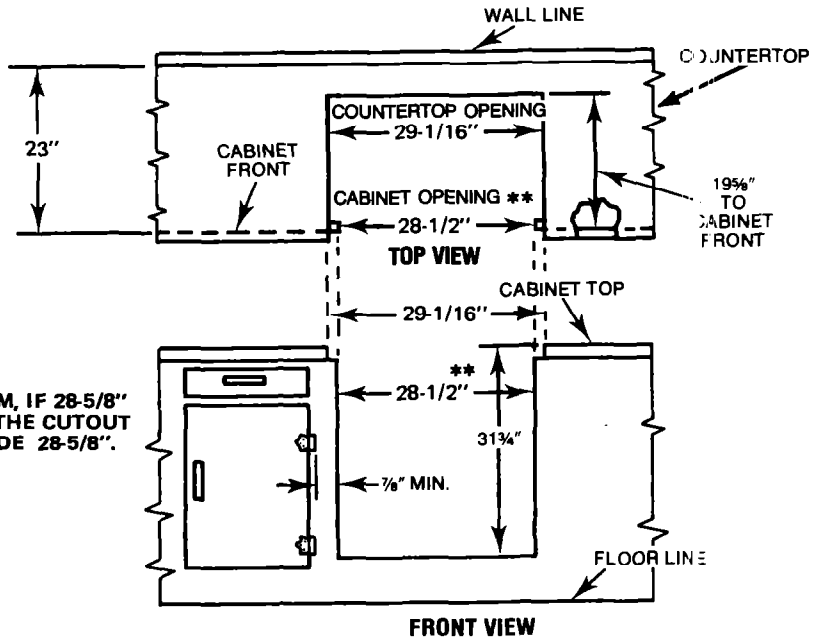

FIGURE 1—ROUGH-IN DIMENSIONS
Prepare the cut-out space, shown in Figure 1, in the desired location in the counter top and cabinet. The support surface (4 1/2" high) must be solid and level from side to side and front to rear. A minimum of 7/8" of cabinet area on either side of cut-out should be clear of handles, hinges or any other obstruction.
- B. The appliance should be connected to the fused disconnect (or circuit breaker) box through flexible armored or non-metallic sheathed cable. The flexible armored cable extending from the appliance should be connected directly to the junction box. The junction box should be located as shown in *Figure 1* so that as much slack as possible remains in the cable between the box and the appliance so that it can be moved if servicing is ever necessary.